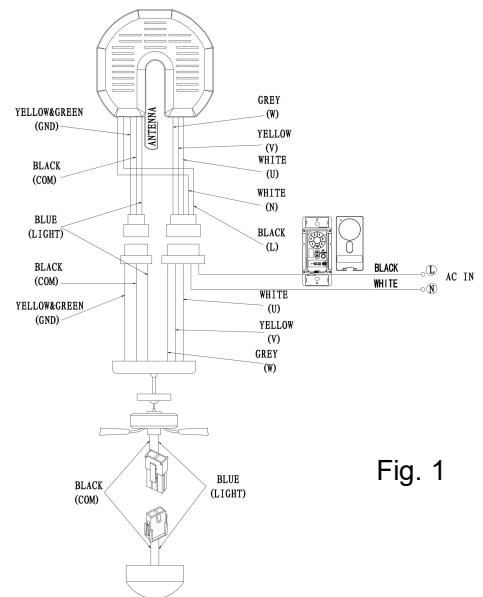

Fig. 1
2. Make wiring connections as indicated Fig. 1.